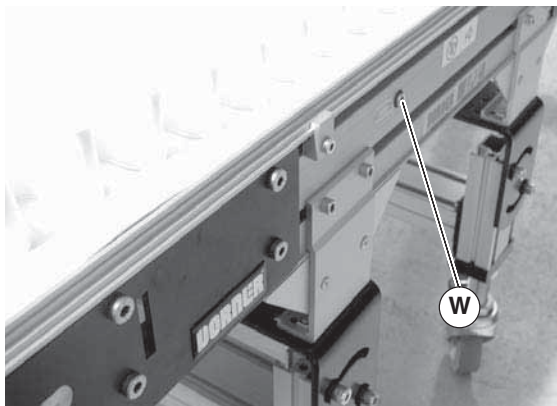

Figure 16
3. If equipped with a lower knuckle, remove screws (Figure 16, item AK) and remove lower knuckle return roller assembly (AL) on both sides of conveyor, note the position of the meshing teeth.